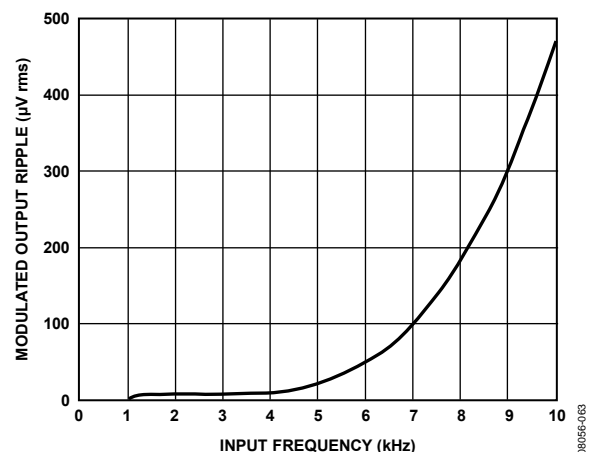

Figure 60. ADA4051-1/ADA4051-2 Modulated Output Ripple vs. Input Frequency
The remaining voltage ripple originates from two sources. The first type of ripple is due to the residual ripple associated with the initial offset of the Gm1. It is proportional to the magnitude of the initial offset and creates a spectrum at the chopping frequency (f_{CHOP}). When the amplifier is configured as a unity-gain buffer, this ripple has a typical value of 4.9 μV rms and a maximum of 34.7 μV rms. The second type of ripple is due to the intermodulation between the high frequency input signal and the chopping frequency. This ripple depends on the input frequency (f_{IN}) and creates a spectrum at frequencies equal to the difference between the chopping frequency and the input frequency ($f_{CHOP} - f_{IN}$), as well as at frequencies equal to the summation of the chopping frequency and the input frequency ($f_{CHOP} + f_{IN}$). The magnitude of the ripple for different input frequencies is shown in Figure 60.
- No affect on the desired input signal as long as its frequency is much lower than the chopping frequency shown in Figure 60